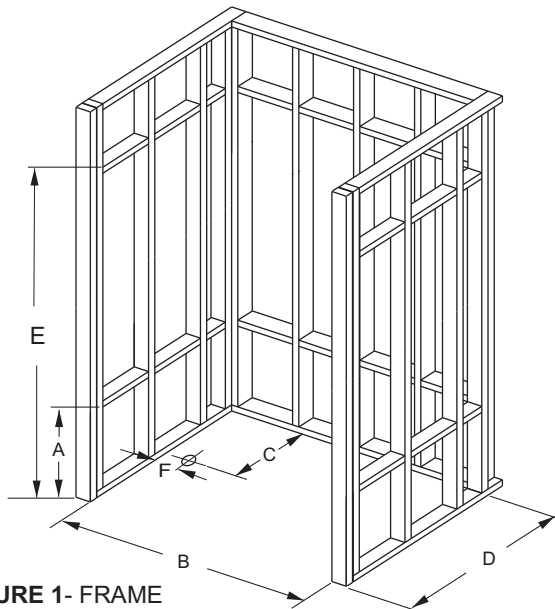
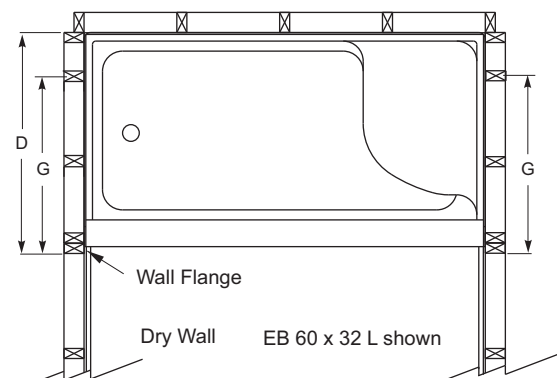

FIGURE 1- FRAME LAYOUT DIMENSIONS
FIGURE 2 - SHOWING THE TOP VIEW OF THE BASE IN THE ALCOVE.
- The Shower Base is to fit into framed alcove as shown in Figure 1 and Figure 2.
- Framing: Inside dimension of the studded alcove are to be as specified in Figure 1.
- Build solid framing to the dimensions in figure 1.
- Make sure that the vertical and horizontal studs on the side wall is at the dimension as shown in figure 1 and 2.